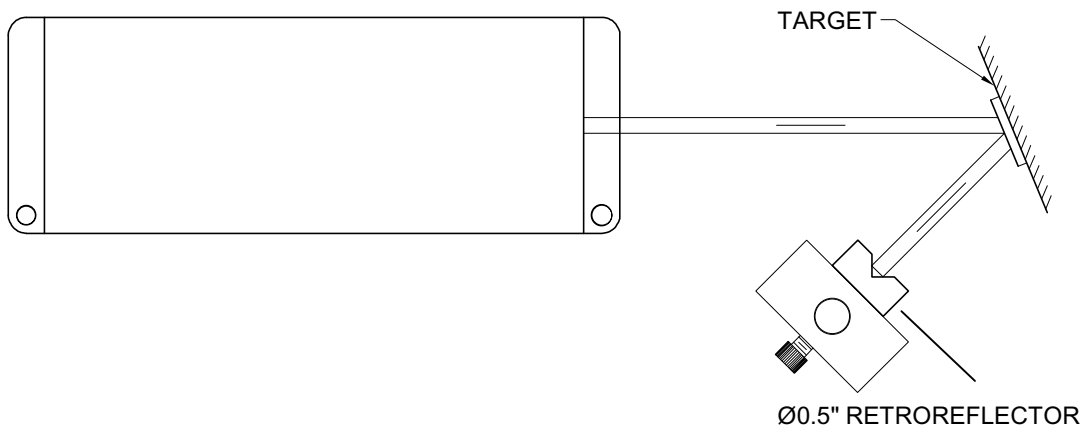

FIG. 11-3 DOUBLE-PASS OPTICAL
2. For median frequency response, up to 100 kHz, you may use a single-aperture laser head and a small ($\text{Ø}1/4$ ") flat mirror as a target. However, the alignment is very critical (within 30 arcsec). For easy alignment, you may use a double-pass arrangement as shown in Fig. 11-3. Here the alignment is very easy (within 1°). The limitation is that the maximum displacement range is a few mm (for very small angle, this may extend to a few cm). The advantages are easy alignment and twice the displacement sensitivity. Typical applications are parashock and high-frequency shakers, mechanical vibrations, spindles, structures, optical tables, etc.
For long travel, see alignment procedure in sec 7.5.4. For a double-pass arrangement (Fig. 11-3), first cement the small flat-mirror to the target, then aim the laser beam at the flat mirror. Make sure the reflected beam is near the laser head. Set the retroreflector at the beam center such that the returned beam enters the aperture on the laser head. Check the intensity reading and make sure it is above threshold (larger than 4 bars) over the whole travel of the target. For the non-contact arrangement, the total range of travel is only a few microns, and the alignment is critical. First, secure the focal lens (typically 1.5 to 3 inches focal length) in front of the single-aperture, then measure the focal length by moving a piece of paper in front of the laser beam. At the focal point, the focal spot is the smallest or brightest. Mount the laser beam with the lens in front of the target and move the laser head back and forth such that the target is exactly at the focal point. Select a spot with more glint or more light reflected to the laser head. Check the intensity reading and make sure it is above threshold.